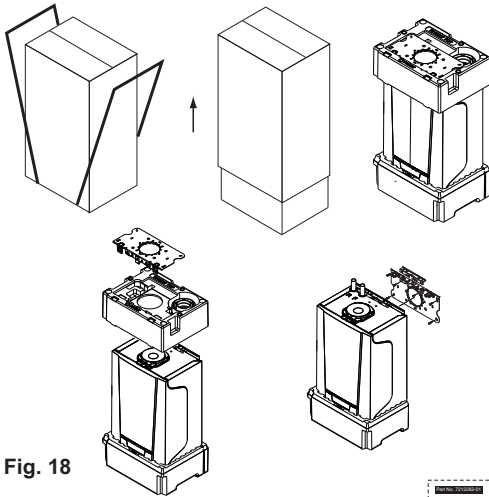

Fig. 18
1. Follow the procedure on the carton to unpack the boiler (Fig. 18). See Section 2.3.1 Handling before lifting the boiler.